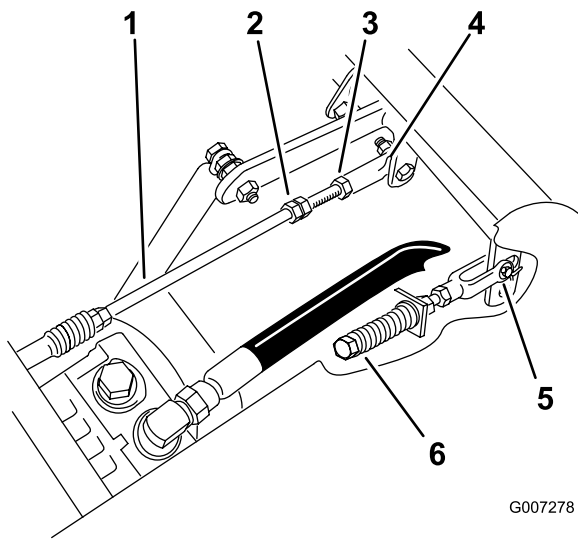

Figure 56
3. Adjust the pump rod length by rotating the double nuts on rod, in the appropriate direction, until the wheel is still or slightly creeping in reverse (Figure 56).
6. Tighten the locknut at the ball joint (Figure 56).